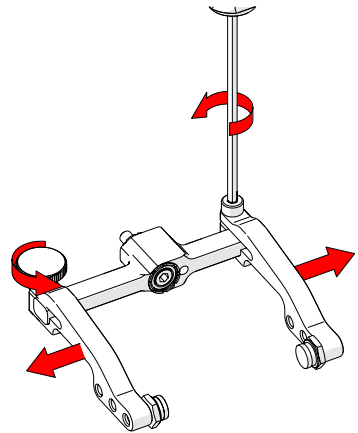

Fig. 79 - Remove probe holder arms
3. Loosen the probe holder arm adjustment knob and the arm clamp screw. Slide the probe holder arms off the yoke (Fig. 79).